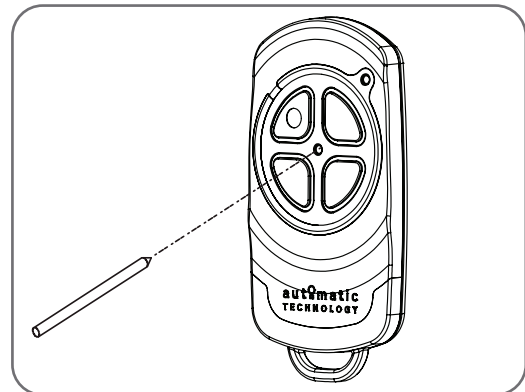

Fig.6.6.5
- Using a small needle / pen, press and hold firmly for two seconds the middle button, through the Coding Hole (Fig 6.6.5).
- Within ten (10) seconds take the additional transmitter you wish to code. Hold the new transmitter's button for two seconds, pause for two seconds, hold again for two seconds and then release.
- Wait for ten (10) seconds and then press the new transmitter's button to test.